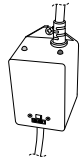

FIGURE 8
- Once power is activated you can check the ballast (12), Figure 8, to see if the CLEARRAY System is functioning; it has two LED indicator lights the green indicating incoming power flow and the red indicating the system is properly working.